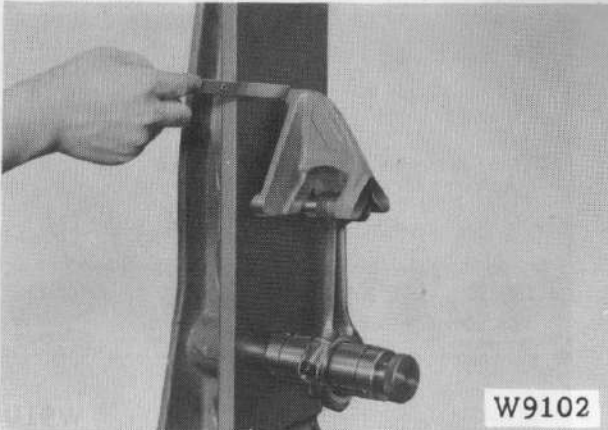

Fig.2-55 Connecting Rod Alignment
2. Check the connecting rod alignment for bend and twist with a Connecting Rod Aligner as illustrated in figure 2-55.